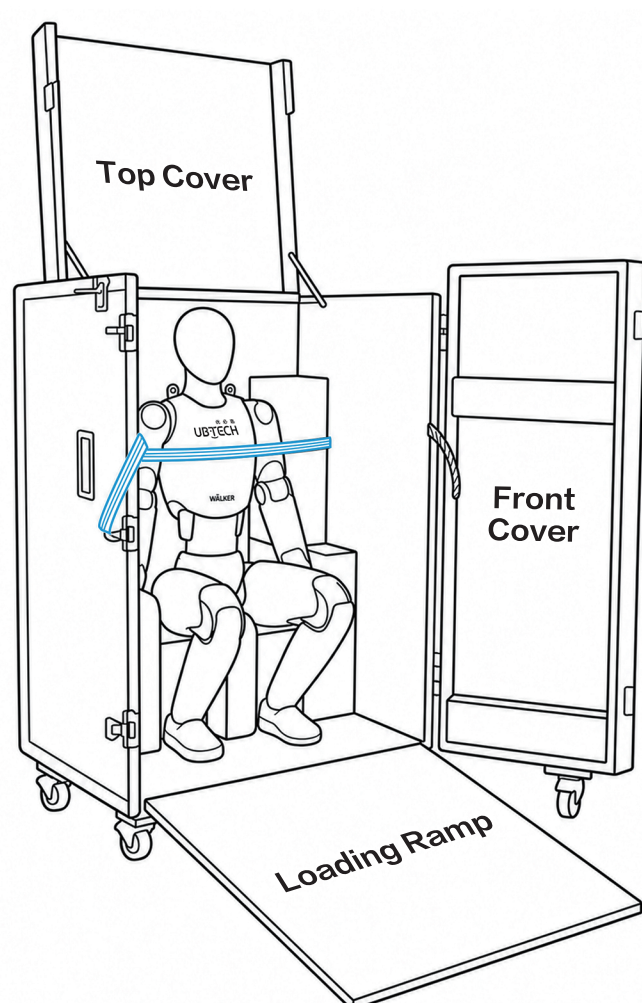

Figure 1
1. Lock the wheels on both sides and the rear of the flight case, open the top cover of the flight case, and remove the EPE foam above and in front of the robot (Figure 1)
2. Open the front cover of the flight case, unfasten the fixing straps, and lower the loading ramp (Figure 1)